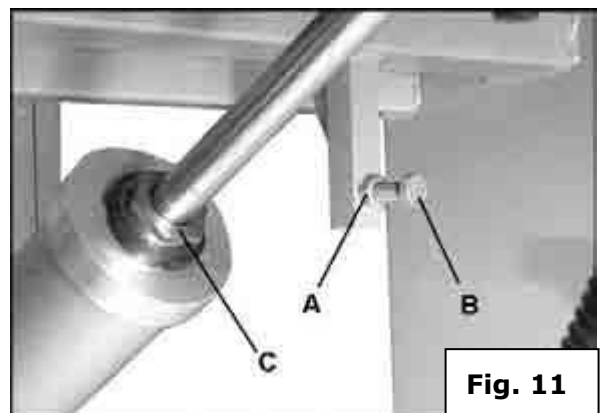

Fig. 11
- Loosen the hex nut (**A**, Fig. 11)
- The horizontal stop for the boring head is controlled by the nut located on the cylinder (**C**, Fig. 11). The nut regulates how far the cylinder rod can protrude, and thus controls where the boring head comes to a stop when pivoted to horizontal position.